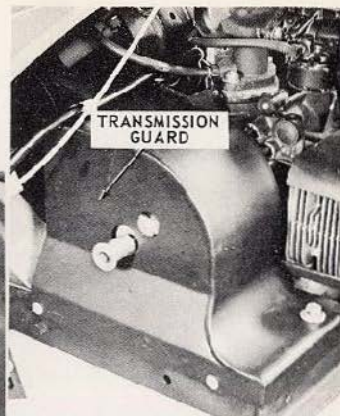

FIGURE 13
1. Remove transmission guard (Figure 13).